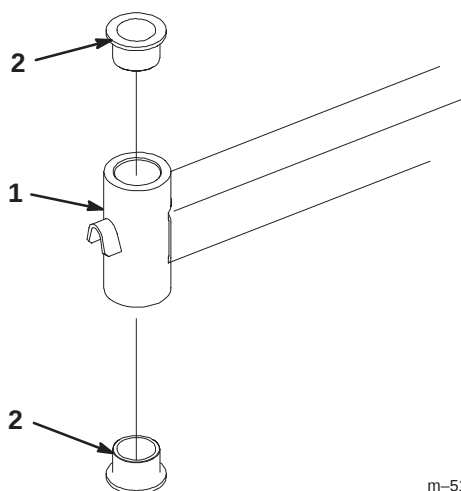

Figure 67
4. Insert a pin punch into the mounting tube and carefully drive out the bushings (Fig. 67). Clean the inside of the mounting tube.
6. Inspect the caster wheel fork for wear and replace if necessary (Fig. 67).